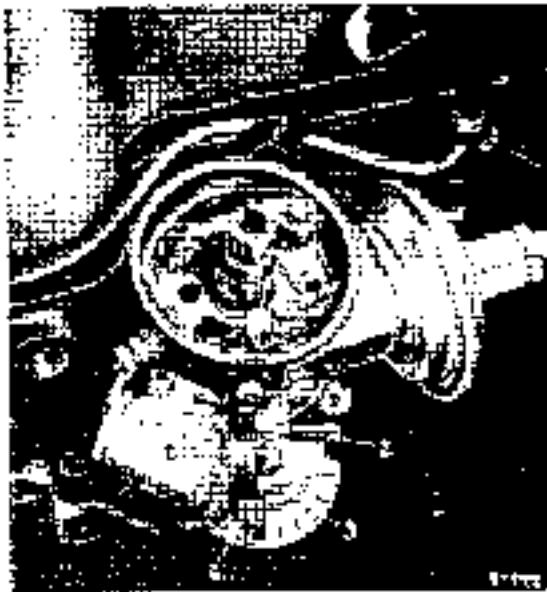

Fig. 01-4/51 a
On recent models the adjusting screw and control collar on the distributor bearing have been replaced by a hand lever (2) with eccentric disk (Figs. 01-4/51 a and 01-4/51 b). In addition, the stud screw (14) which projects into the circular groove in the distributor collar, is no longer fitted (Fig. 01-4/50).
On Model 220 SE the distributor bearing also serves as a cover plate and is screwed to the end face of the crankcase (Fig. 01-4/51 b)